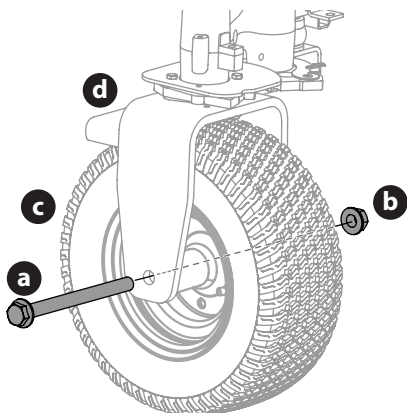

Fig. 48
1. Remove the hex screw (a) and flange lock nut (b) that secures the front wheel (c) to the yoke assembly (d) (Fig. 48).
2. To re-install or replace the front tire, reverse Step 1. Tighten the hardware to 75-90 ft-lbs (101-122 N-m) (Fig. 48).